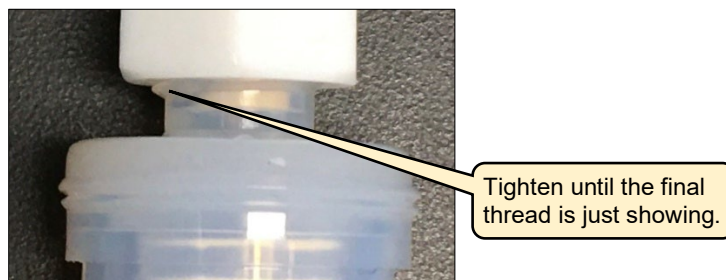

Figure 66: Tightening the Filter Fittings
8. Tighten the nut on the fitting until the final bit of thread is just showing past the nut (Figure 66).
11. Tighten the nut on the fitting until the final bit of thread is just showing past the nut (Figure 66).
7. Tighten the nut on the fitting until the final bit of thread is just showing past the nut (Figure 66 above).
10. Tighten the nut on the fitting until the final bit of thread is just showing past the nut (Figure 66).